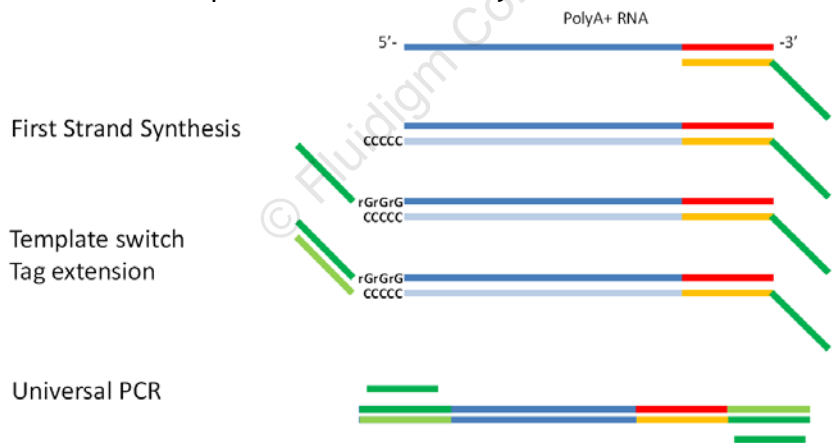

Figure 1 Overview SMARTer[®] Kit
The SMARTer[®] chemistry described in this protocol uses a modified oligo (dT) primer to prime first-strand synthesis, and selects for polyA+ RNA in a sample (see reference 1 in “References” on page 5). When the reverse transcriptase (RT) reaches the 5' end of the mRNA, the enzyme's terminal transferase activity adds a few non-templated deoxycytidines to the 3' end of the cDNA. The template-switch primer contains a few guanosines at its 3' end that base-pair with the non-templated deoxycytidines on the cDNA to create an extended template. The RT then extends to the end of the template-switch primer, producing single-stranded cDNA that contains the SMARTer[®] universal tag sequence, the 3' end of the mRNA, the full-length transcript up to the 5' end of the mRNA, and the reverse complement of the SMARTer[®] universal tag sequence. Prematurely terminated cDNAs, contaminating genomic DNA, or cDNA transcribed from RNA without polyA tail will not contain universal tag at both ends and will not be exponentially amplified during long-distance PCR. However, degraded RNAs present in low quality RNA that still have polyA tails may be amplified, yielding shorter cDNA fragments with incomplete coverage at the 5' end of the transcript. Full-length transcripts are enriched during PCR because the SMARTer[®] tag, found at the 5' end of the cDNA, can pair with its own reverse complement. The reverse complement is found at the 3' end of short cDNAs and prevents amplification of short cDNAs. Figure 1 shows the template-switch chemistry used in the SMARTer[®] Kit (Clontech PN 634833):